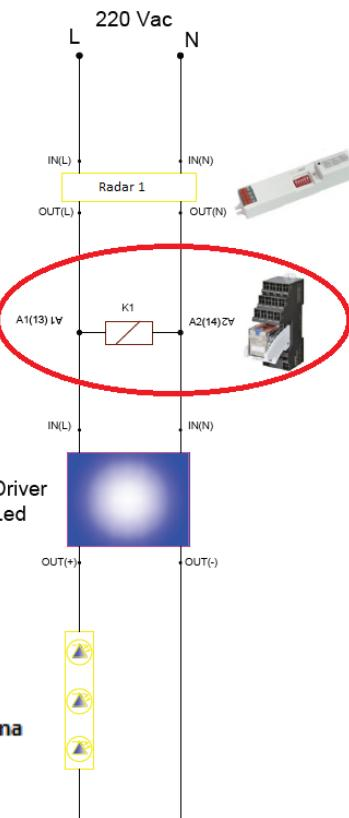

Fig. 3
- III. At the Radar 1 output, the supplied OMRON relay coil will be connected to the pins **A1 (13) and A2 (14)** (Fig. 3): **IMPORTANT.**